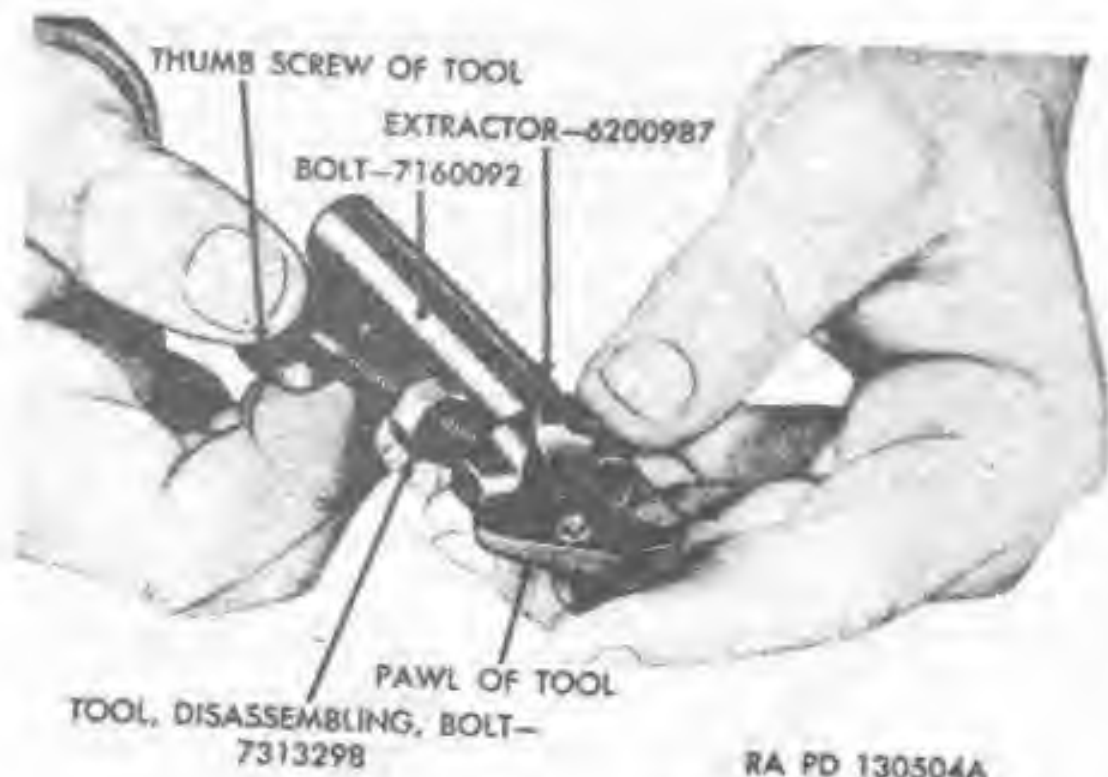

Figure 60. Disassembling bolt.
b. Assemble bolt disassembling tool 7313298 (fig. 6) to the bolt (fig. 60), with the unslotted tang of the tool pawl resting under the bevel of the extractor plunger. (Bolt disassembling tool 7313298 is supplied to organizational personnel and to ordnance field and depot maintenance personnel.) While pressing down on the unslotted tang of the tool pawl to make certain that it stays under the bevel of the extractor plunger, turn the thumb screw until the extractor plunger is
- c. Place bolt disassembling tool 7313298 on bolt (fig. 60) so that slotted tang of its pawl rests on extractor plunger. (The bolt disassembling tool 7313298 is supplied to organization personnel and ordnance field and depot maintenance personnel.) Turn thumbscrew of tool until plunger is depressed; at the same time, the ejector is depressed into bolt by the tool.